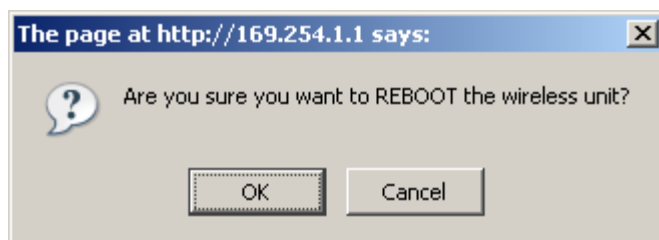

Figure 164 - Configuration Reboot Screen
6. Reboot both ends of the link Figure 164. The software is designed to allow five seconds so that a user can command both ends of the link to reboot before the wireless link drops.